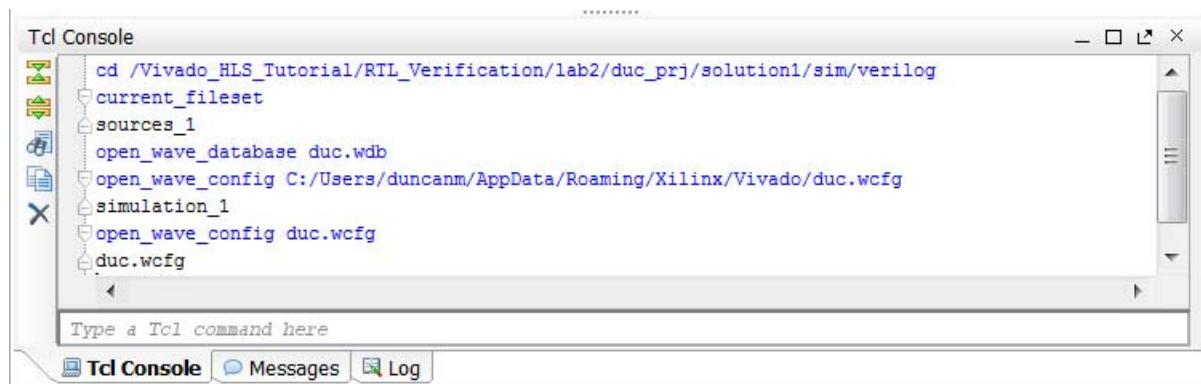

Figure 8-14: Opening the Trace File in Vivado
2. In the Vivado Tcl Console, enter the following commands, as shown in Figure 8-14. This example assumes the top-level tutorial directory is `C:\Vivado_HLS_Tutorial`: